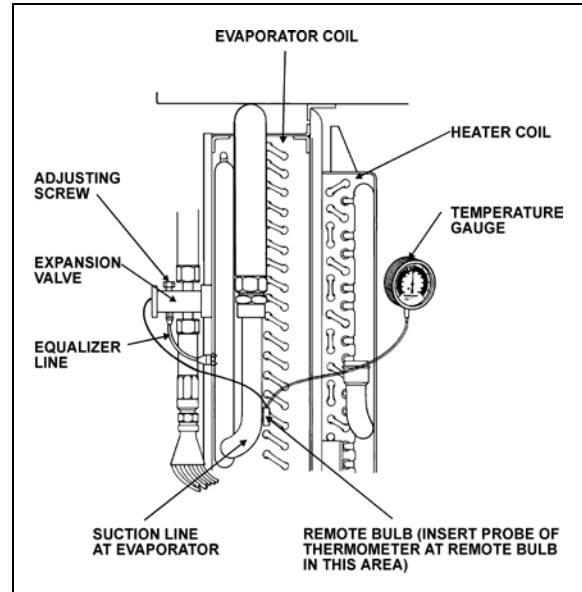

FIGURE 33: SUPERHEAT ADJUSTMENT INSTALLATION22046
The expansion valve for the cabin or passenger's section HVAC unit is a thermo-sensitive valve with a remote control bulb head attached to the evaporator outlet line and is accessible by the evaporator coil access door (Fig. 33). The valve regulates the flow of refrigerant liquid into the evaporator coils and is controlled by the suction gas temperature leaving the evaporator. The bulb head senses the refrigerant gas temperature as it leaves the evaporator. High temperature will cause expansion and pressure on the power head and spring. Such action causes the assembly valve to open, allowing a flow of refrigerant liquid into the evaporator.
The starting method of adjusting the superheat is to unscrew completely the main evaporator expansion valve adjusting screw, then screw in 13 turns clockwise for 134A (Fig. 33). Afterwards, the following procedure should be followed:
3. Install a remote reading thermometer to the evaporator outlet line near the existing remote bulb (Fig. 33).